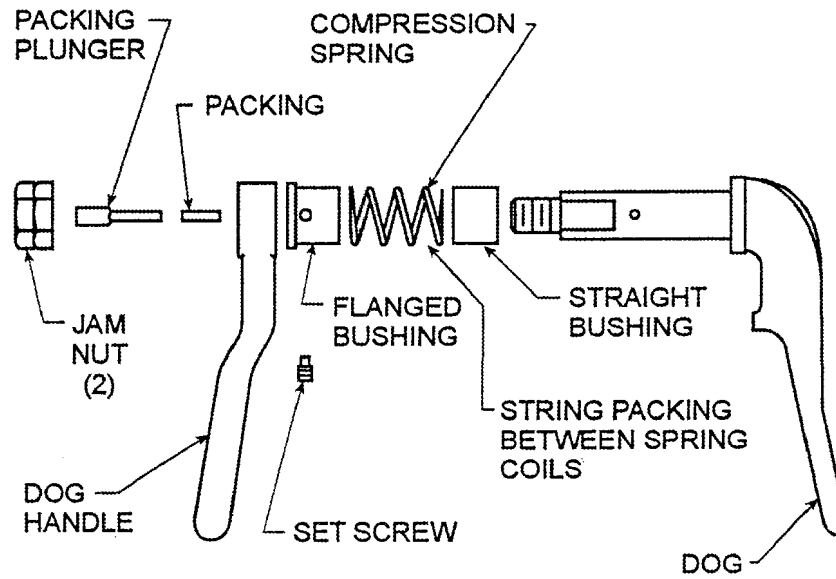
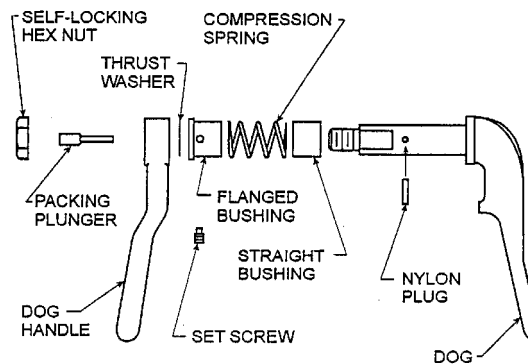
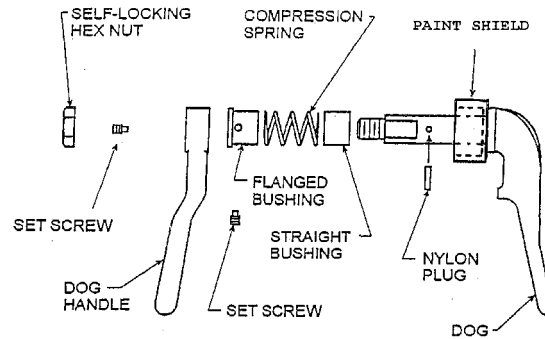

Figure 600-2.28. Individually Dogged Door Dog Assembly (Cross Sectional View)
Figure 600-2.29. Individually Dogged Door Dog Lever Assembly (Cross Sectional View) Modified by MACHALT 167-31004(ECP-444)
Figure 600-2.30. Individually Dogged Door Dog Assembly (Cross Section View) Modified by MACHALT 167-31010 (ECP-526)
- i. Ensure both jamnuts or self-locking hex nuts are in place on each dog assembly. Jamnuts should be locked tightly together. Remove any paint or dirt from the bushings with a wire brush and a clean rag. The straight bushing should not be stuck in the spindle sleeve and should rest against the back of the dog. If the bushing is jammed or stuck in the sleeve, it will have to be removed, and the interior of the sleeve cleaned out and lubricated, to ensure a free sliding fit of the bushing in the spindle sleeve. See figure 600-2.28, figure 600-2.29, and figure 600-2.30.